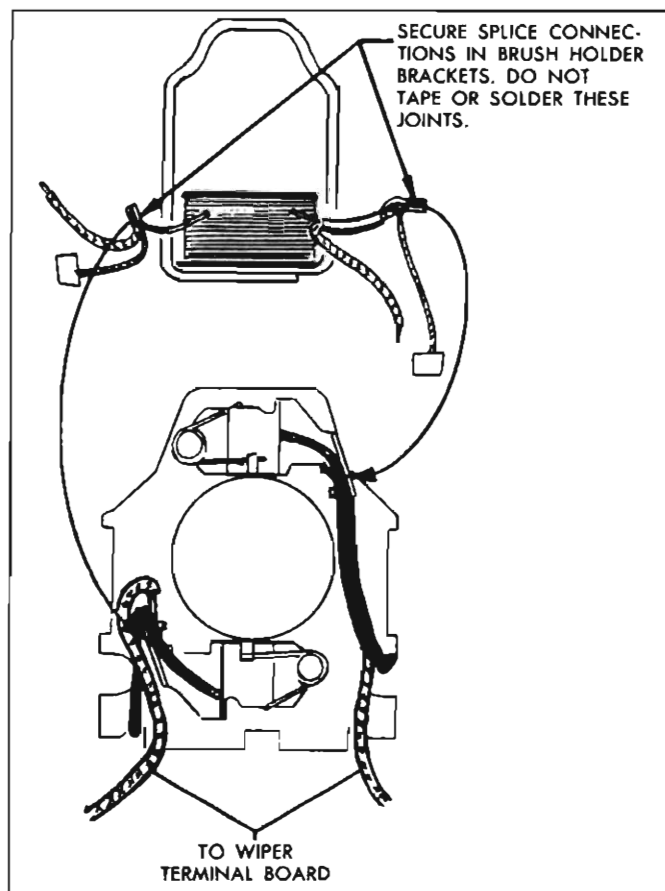
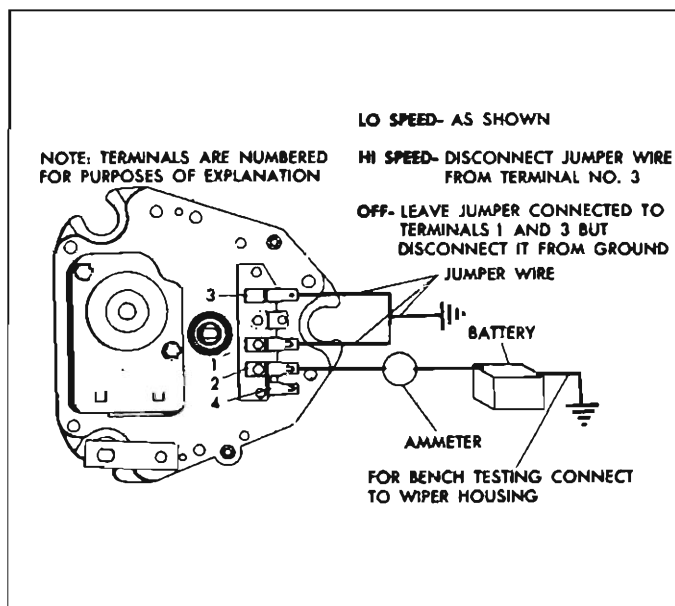

Fig. 8-26—Checking Motor Splice Connections
Fig. 8-27—Checking Two-Speed Wiper Circuit
3. With ignition switch on, check for 12 volts at harness terminal that connects to number (2) terminal (fig. 8-27).
4. To determine if dash switch or car wiring is at fault, disconnect harness from wiper motor and try operating wiper as shown in Figure 8-27. If wiper fails to operate, remove body parts as required, disconnect transmissions from wiper crank arm and recheck wiper operation. If wiper still fails to perform, correctly, remove wiper from car and check wiper according to procedure under trouble shooting wiper detached.
0	(1) Loose solder connection at wiper terminal No. 2 (Fig. 8-27). (2) Loose splice joints (Fig. 8-26).